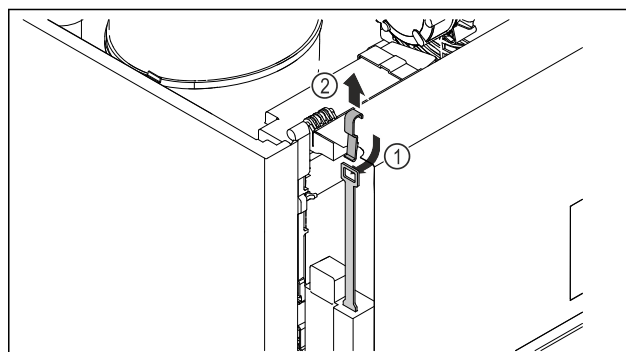

Fig. 244
- Push the emergency release key Fig. 244 (1) in from the top, hook it into the lock, and pull up Fig. 244 (2).